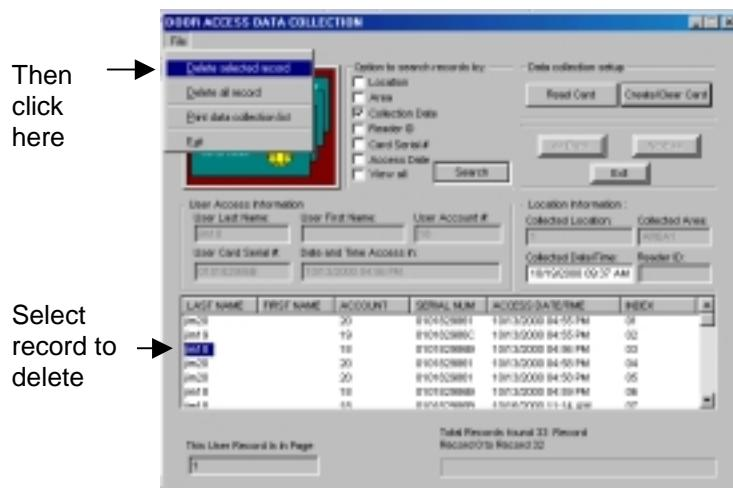

Figure 11.65 Deleting a Collected Record
4. Select collected data to delete (Figure 11.65).
5. Select Delete Selected Records from the File menu (Figure 11.65).